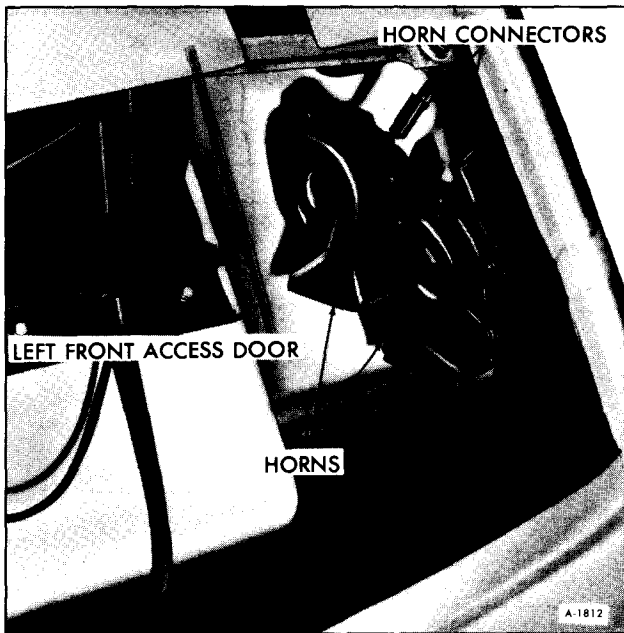

Figure 43—Horn Installation (Typical)
Two air-tone "S" type vibrating electric horns (figure 43) are mounted behind the left front access door. The electric air-tone "S" type horn is carefully adjusted and inspected during manufacture and should operate indefinitely without attention. The horn assembly should not be adjusted or repaired.
2. Remove the horn mounting bolts and remove horns (See figure 43).